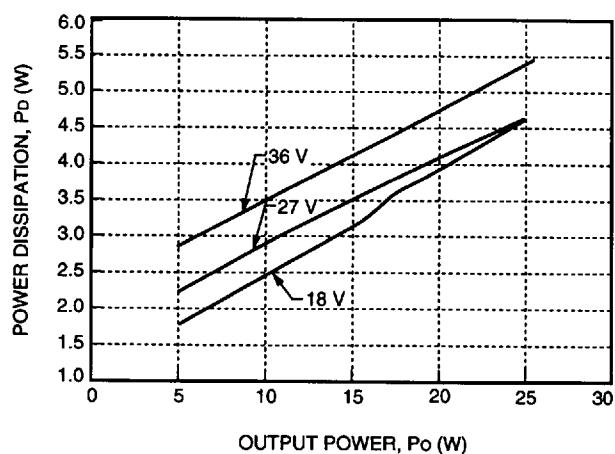
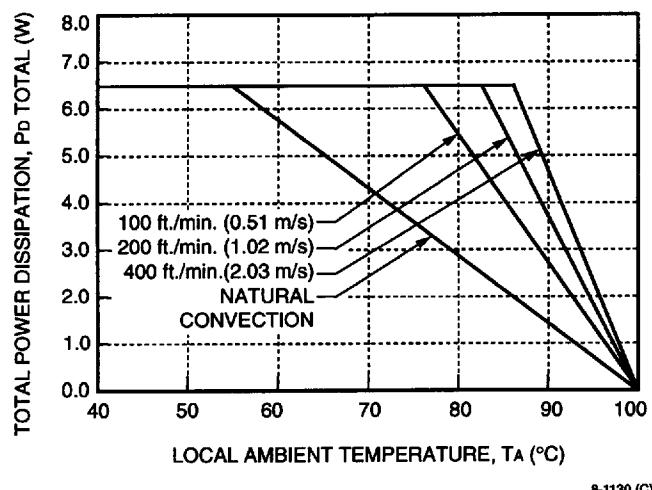

Figure 23. CC025ABK Fixed Losses, P_d
Figure 28. Total Power Dissipation vs. Local Ambient Temperature and Air Velocity
The maximum operating temperature of the CC025 Triple Output-Series Power Modules at a given operating condition can be predicted by combining the power dissipation curves (Figures 23 through 27), the power derating curve (Figure 28), and the thermal resistance curve (Figure 29).
Use Figures 23 through 29 and the steps below to predict the safe operating region for many different operating and environmental conditions.
2. Use P_{total} with the appropriate figure (Figure 23 or 24) to determine the fixed losses (P_F) associated with operating at P_{total} . These losses are independent of which output the load is being drawn from.
6. Use the estimated total power dissipated (P_{diss}) along with Figure 28 to determine the maximum ambient temperature allowable for a given air velocity.
$$P_F = 4.5 \text{ W (from Figure 23)}$$
Figure 28 shows that, in natural convection, the maximum ambient temperature that this module can operate at is approximately 66 °C.